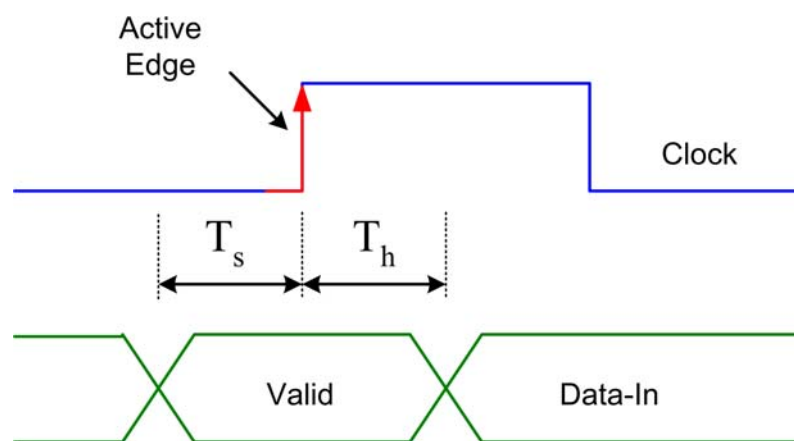

Figure 7: Setup and Hold Times
- **Setup time** (T_s) refers to a constant duration for which the inputs must be held prior to the arrival of the clock transition (See Figure 7).
- **Hold time** (T_h) refers to the duration for which the inputs must not change after the arrival of the transition (See Figure 7).